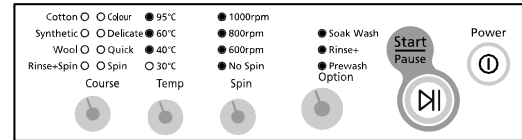

fig. 1
- Display shows such as fig. 1